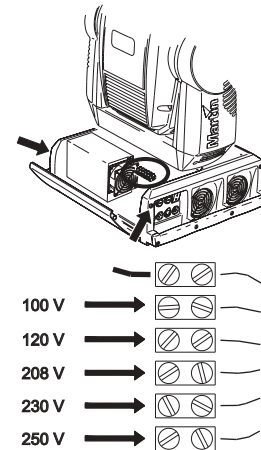

Figure 10: Transformer connections
- 2 Find the transformer setting in Table 3. Move the brown wire on the transformer connection block to the position shown in Figure 10.